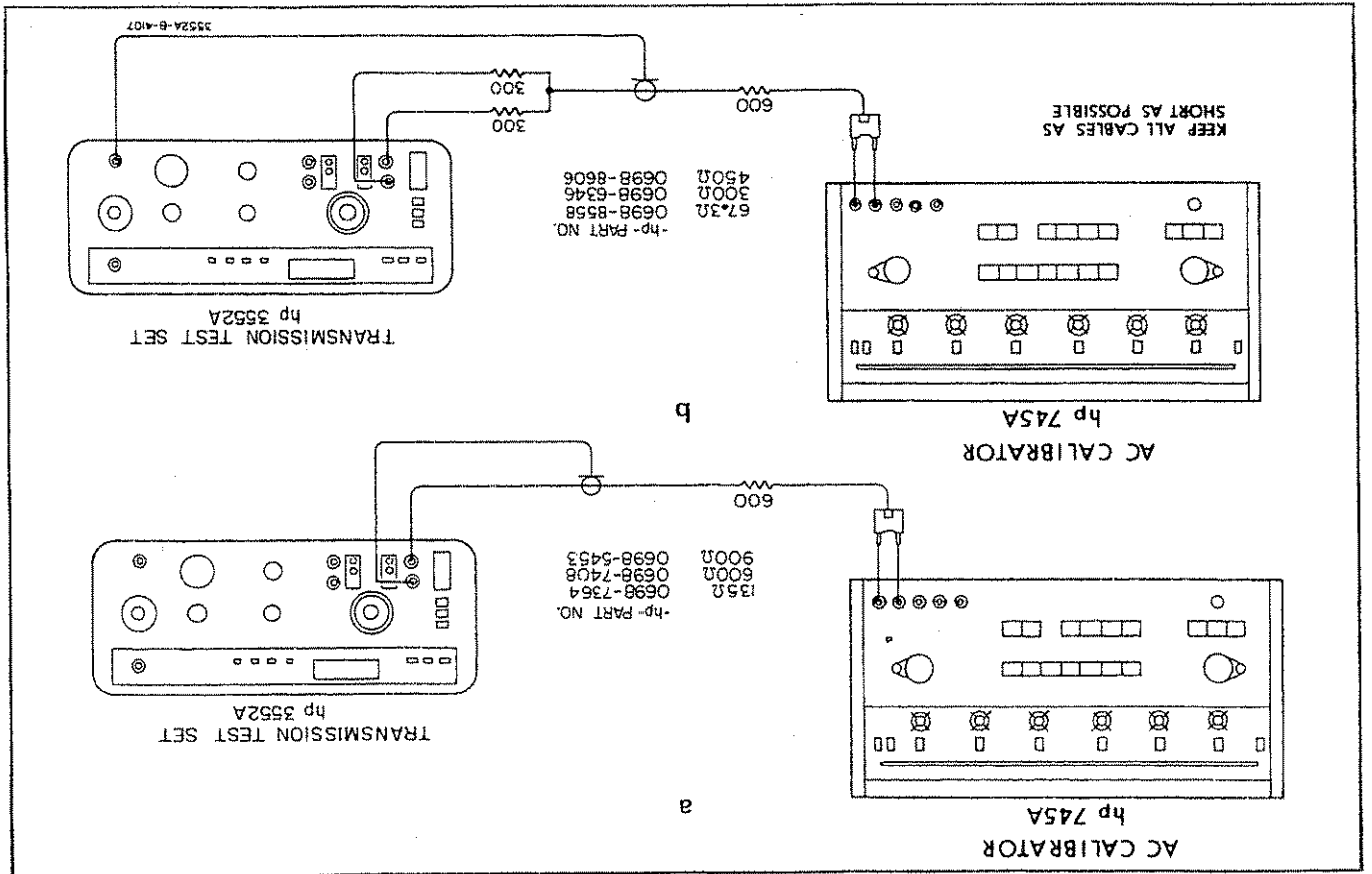

Figure 5-7 (a,b). Receiver Balance Test Setup.
- a. Connect the equipment as shown in Figure 5-7(a). Receiver:
- d. Connect the test equipment as shown in Figure 5-7(b).
- f. Repeat Steps c through e with IMP set to 150. Substitute a 150 ohm resistor for the 600 ohm resistor in Figure 5-7, and two 75 ohm resistors for the 300 ohm resistors. (AC calibrator output approximately 7746 V.)
- g. Repeat Steps c through e with IMP set to 900. Substitute a 900 ohm resistor for the 600 ohm resistor in Figure 5-7, and two 450 ohm resistors for the 300 ohm resistors. (AC calibrator output approximately 1.897 V.)